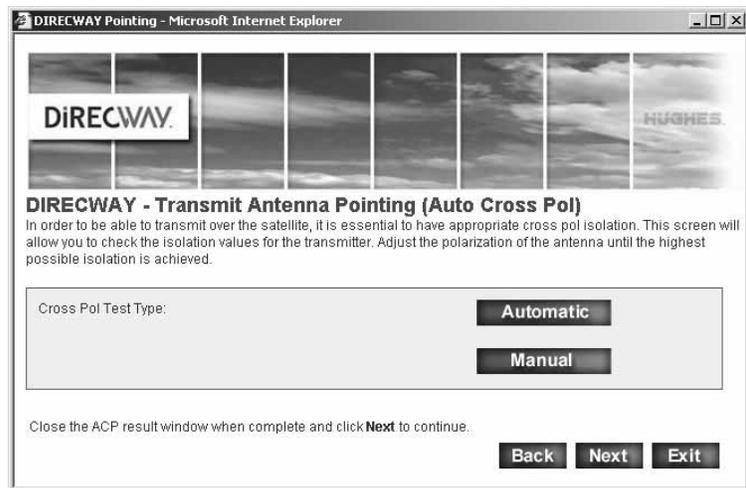

Figure 65: Executing a manual cross-polarization test
9. Click **Manual** on the Transmit Antenna Pointing screen shown in Figure 65 to initiate the manual cross-pol test.